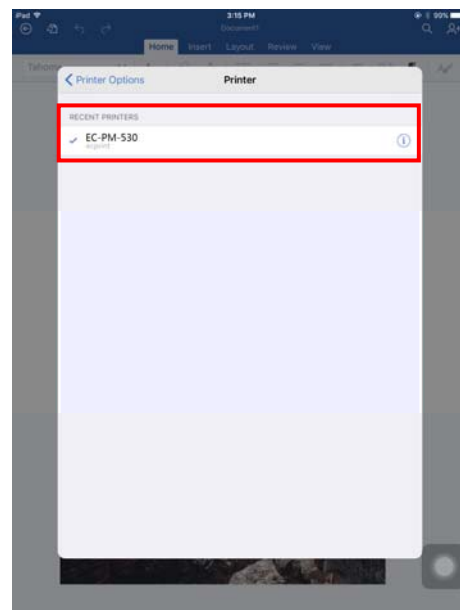

Figure 42
2.6 Select “EC-PM-530” in the list, as shown in Figure 42.